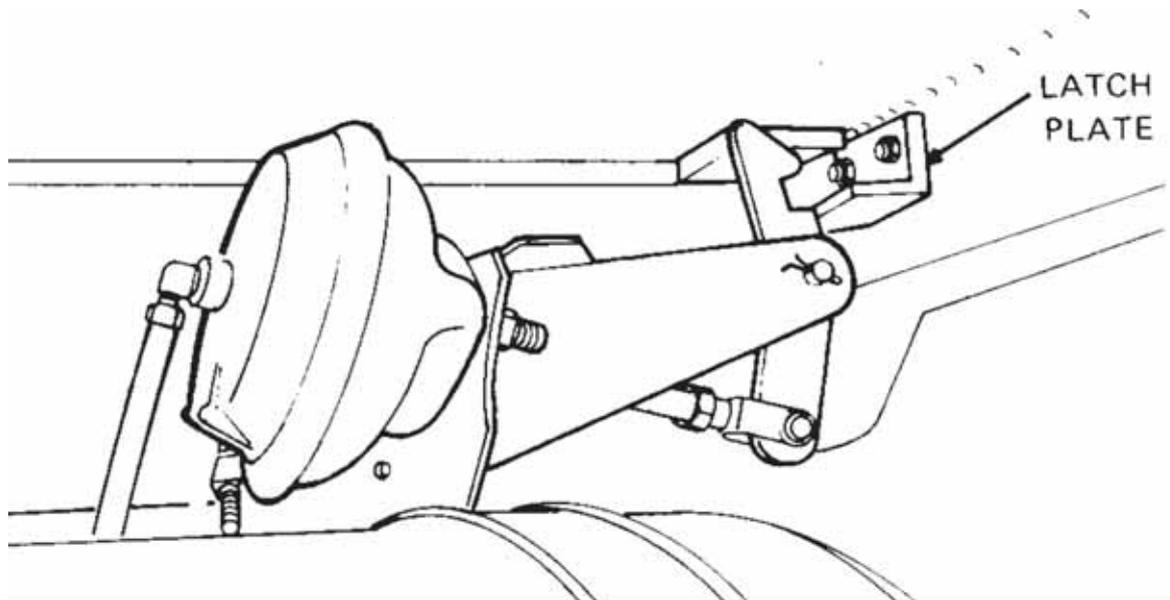

Figure 7 Body Lock
8. A body lock and tailgate lock are fitted to the truck. The body lock (Figure 7) is located beneath the front right-hand side of the body. It utilizes a diaphragm type air brake chamber which locks the body in the travelling position. The control for the body lock is integrated with the PTO dump control and the body lock releases automatically when the PTO control knob is rotated to the engaged (IN) position. When the PTO control knob is rotated to the disengaged (OUT) position, the body lock automatically locks the body down.